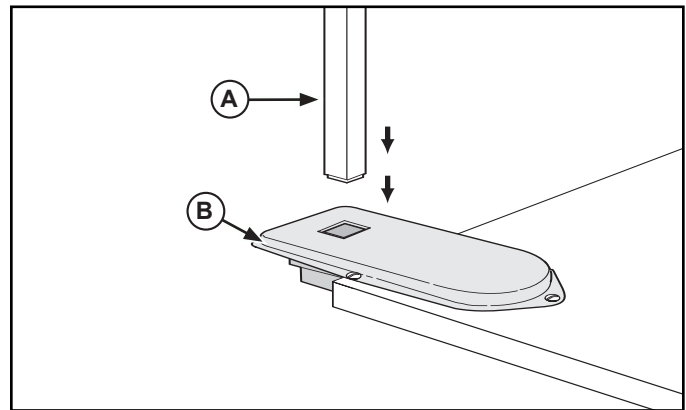

Figure 2. Bar into Base Installation.
2. Place the can opener bar (A) into the base (B) as shown in Figure 2.